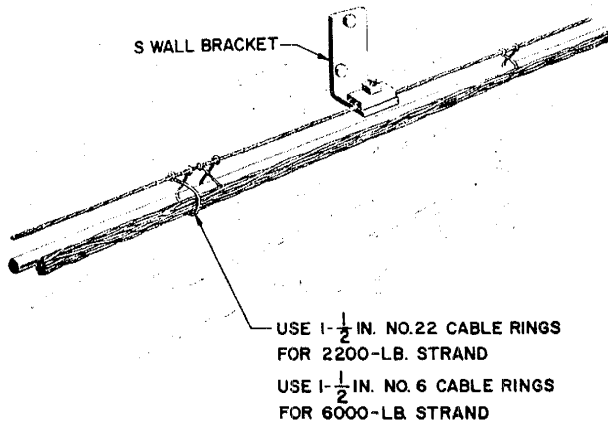

Fig. 7 - Wire Run in Cable Rings Paralleling Cable Supported with Strand
- (b) *Cable run supported by strand* (Fig. 7)